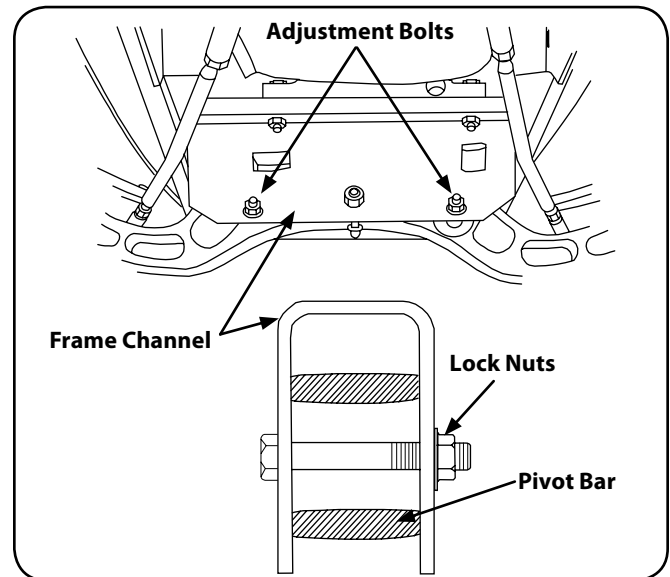

Figure 6-12
- Move the ends of the pivot bar up and down to check for binding. If binding is present, loosen the lock nuts until binding is eliminated. See Figure 6-12.